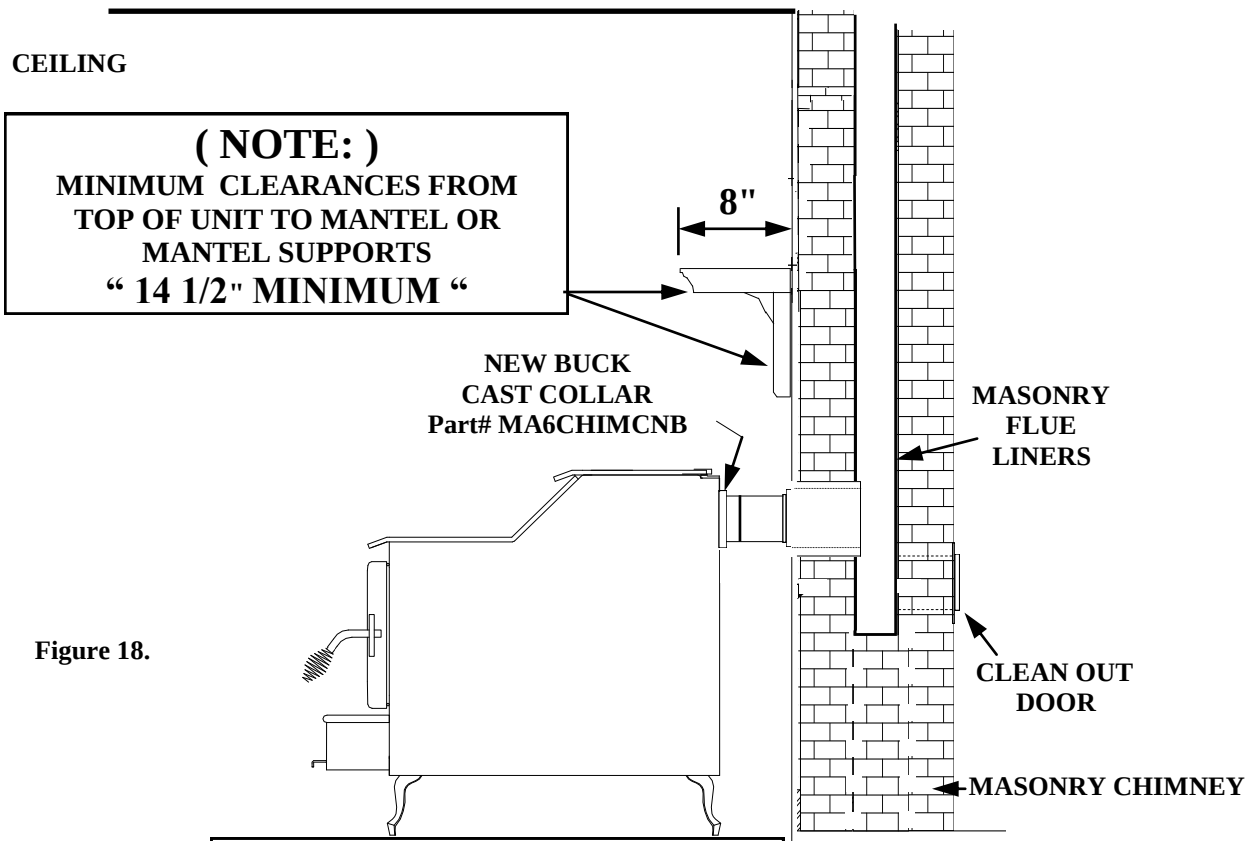

Figure 18.
- (c) Secure each section to each other using at least three (3) sheet metal screws or rivets.
- (d) Use three (3) sheet metal screws to fasten pipe to New Buck Cast Collar on heater, after New Buck Cast Collar Part# MA6CHIMCNB has been attached to stove. (See Page 23 Figure 18).